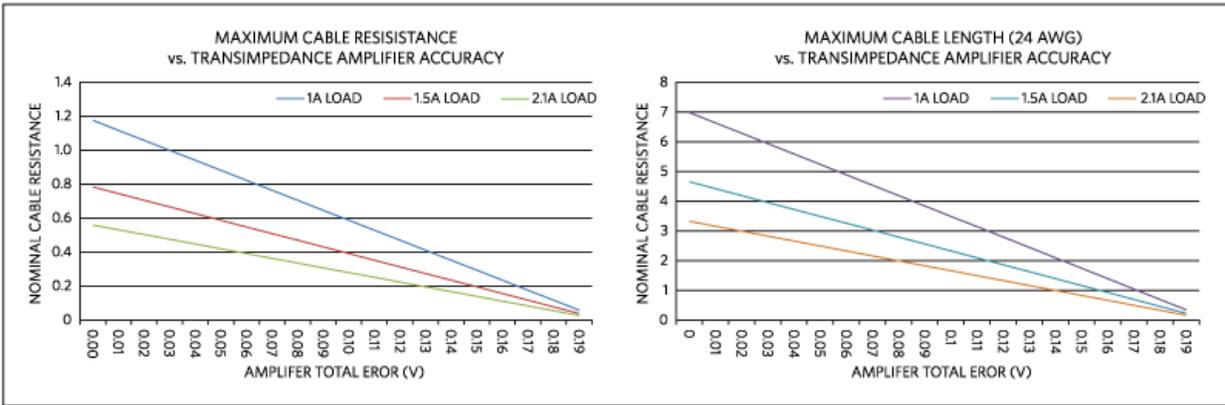

Figure 5. Nominal cable properties vs. total amplifier error.
- The remaining accuracies for the DC-DC converter output voltage and the TIA will limit the maximum cable length. The less accurate the method, the total resistance and the shorter the captive cable. See **Figure 5**.